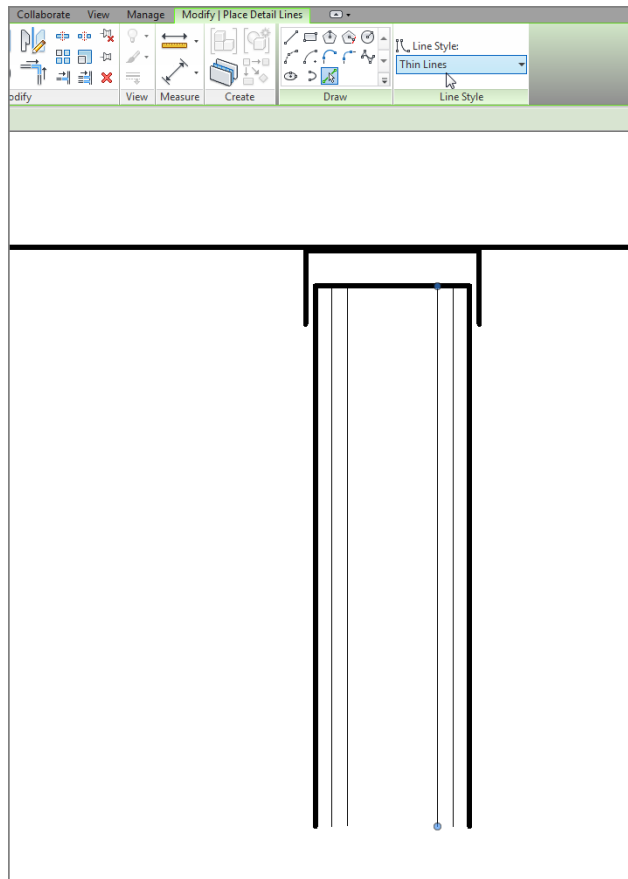

FIGURE 12.64: Adding the lines for the gypsum
3. On the Draw panel, click the Pick Lines icon, as shown in Figure 12.64.
5. Offset two lines in from the right and the left (see Figure 12.64).